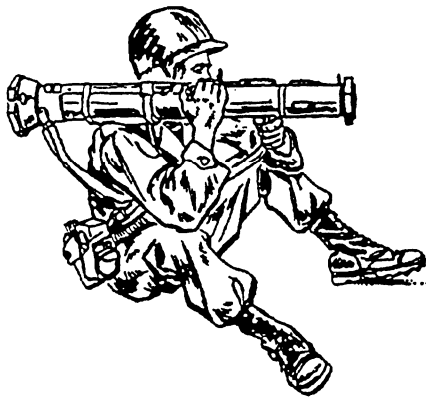

Figure 14-42.—Modified sitting position.
2. To assume the modified sitting position (fig. 14-42), keep the launcher pointed toward the target and execute a half-left face. Sit with your legs partly extended and well apart; place the launcher on your right shoulder. Dig your heels into the ground as in the conventional rifle position. Rest your elbows forward of your knees to avoid bone-to-bone contact.